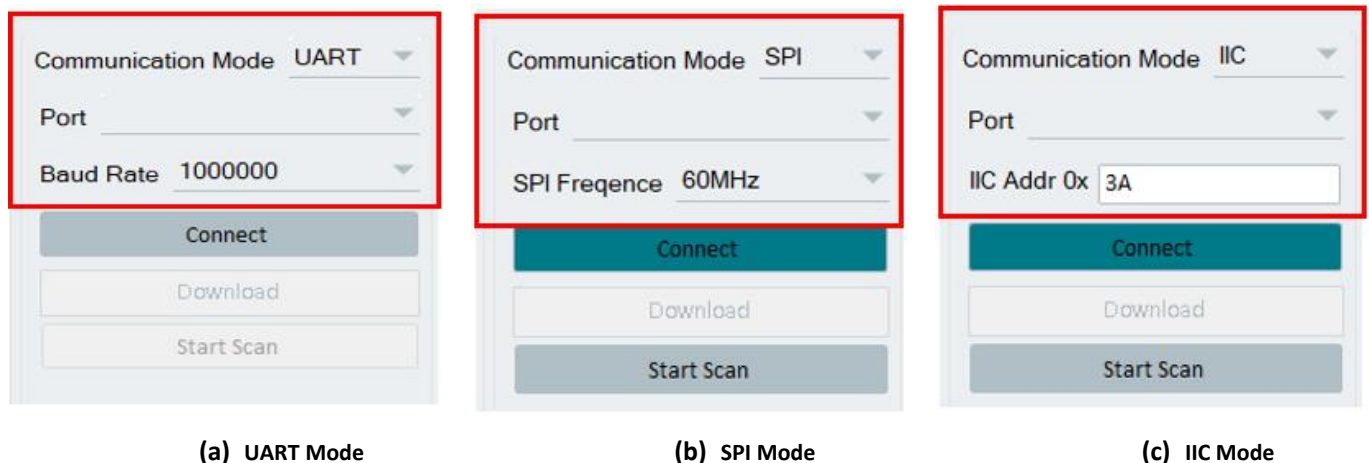

Figure 2-3 Port Selection
(1) For UART communication, the command port is usually the COM port with the smaller number and the data port is the COM port with the larger number. This is not absolute; select the ports according to the PC. A baud rate of 1000000 is recommended for the data port, as shown in Figure 2-3(a).
(2) For SPI communication, the host application is the host and the development board is the slave. Select the port whose name contains CH347T.M1:USB2.0ToSPI&IIC. An SPI frequency of 60 MHz is recommended, as shown in Figure 2-3(b).
(3) For IIC communication, select the port whose name contains CH347T.M1:USB2.0ToSPI&IIC, as shown in Figure 2-3(c).